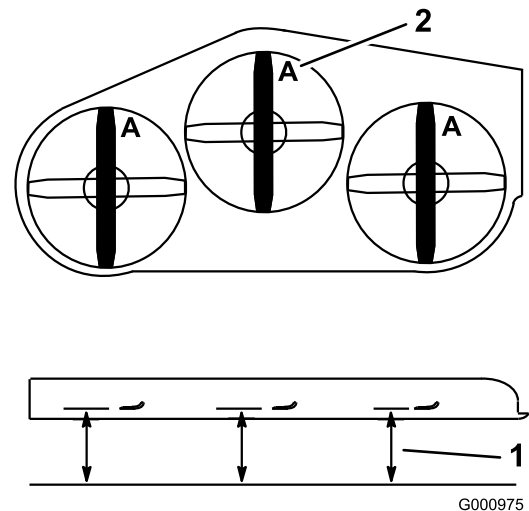

Figure 94
2. Measure from a level surface to the cutting edge, position **A**, of the blades (Figure 94).